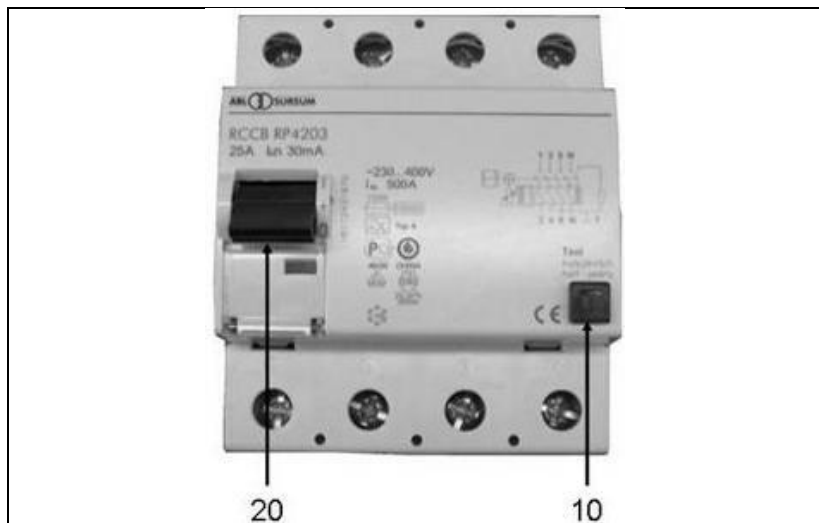

Fig. 5-1: FI protection switch
2. Additionally, every work day, the user must check the mechanical operation of the release by activating the test button on the residual current protection device (RCD) (see Fig. 5-1 -10)).
2. Put the protection switch (see Fig. 5-1 (20)) into position 1.
3. Activate the test switch (see Fig. 5-1 (10)).
- ✓ The switch position displays the result (see Fig. 5-1 (20)):